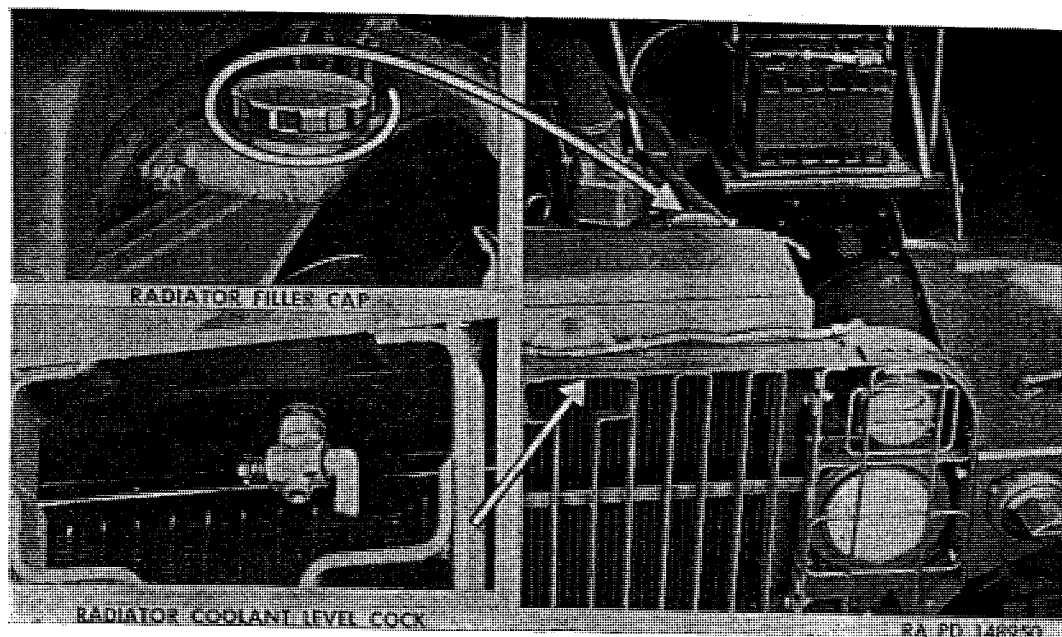

Figure 138. Radiator fillercap and level cock.
a. Filling System. Be sure that drain plug marked WATER on pan at bottom of transmission is installed, and that drain cock at the left rear of cylinder block and at bottom of radiator are closed (fig. 140). Open level cock (fig. 138) at top front of radiator. Remove threaded fillercap from filler neck; then fill system until water is visible in filler neck. Close level cock and continue to add water until no more air bubbles can be seen. Run engine a few minutes to further expel air; then add more water to bring level up to level cock.
b. Draining System. Refer to cooling system draining instruction plate (fig. 139) mounted on instrument board (fig. 29). Run engine at fast idle until normal engine operating temperature is reached (thermostat opens) to stir up any loose rust, scale, etc. Open water level cock (fig. 138) to relieve system pressure. Remove plug at bottom of transmission, marked **WATER**, also open drain cock at left side of cylinder block and at bottom front of radiator core (fig. 140).
- (1) *Removal.* Open water level test cock (fig. 138) to drain system below pressure valve. Pry out valve retaining ring; then remove pressure valve assembly (D) from radiator upper tank. Remove and discard valve gasket.
- (2) *Installation.* Place new gasket on pressure valve seat. Locate pressure valve assembly in place; then install retaining ring. Be sure retaining ring enters groove all the way around. Fill cooling system (par. 142a) and close water level test cock (fig. 138).